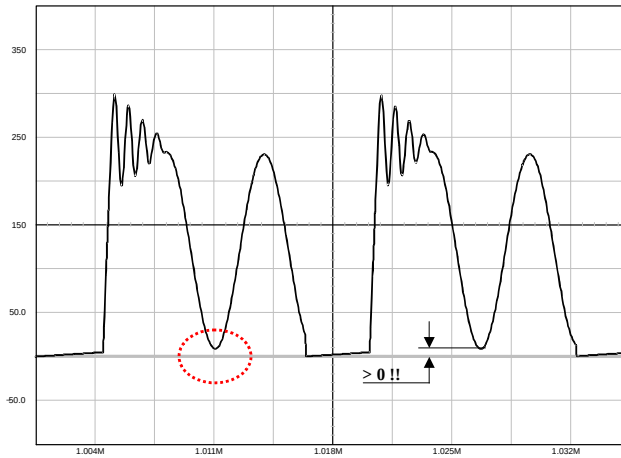

Figure 45. The Drain-Source Wave Shall Always be Positive
1. The lateral MOSFET body-diode shall never be forward biased, either during start-up (because of a large leakage inductance) or in normal operation as shown in Figure 45. This condition sets the maximum voltage that can be reflected during toff. As a result, the Flyback voltage which is reflected on the drain at the switch opening cannot be larger than the input voltage. When selecting components, you thus must adopt a turn ratio which adheres to the following equation:
Figure 47a: the simple capacitor limits the voltage according to the lateral MOSFET body-diode shall never be forward biased, either during start-up (because of a large leakage inductance) or in normal operation as shown by Figure 45. This condition sets the maximum voltage that can be reflected during t_{off} . As a result, the flyback voltage which is reflected on the drain at the switch opening cannot be larger than the input voltage. When selecting components, you must adopt a turn ratio which adheres to the following Equation 3. This option is only valid for low power applications, e.g. below 5 W, otherwise chances exist to destroy the MOSFET. After evaluating the leakage inductance, you can compute C with (Equation 4). Typical values are between 100 pF and up to 470 pF. Large capacitors increase capacitive losses...